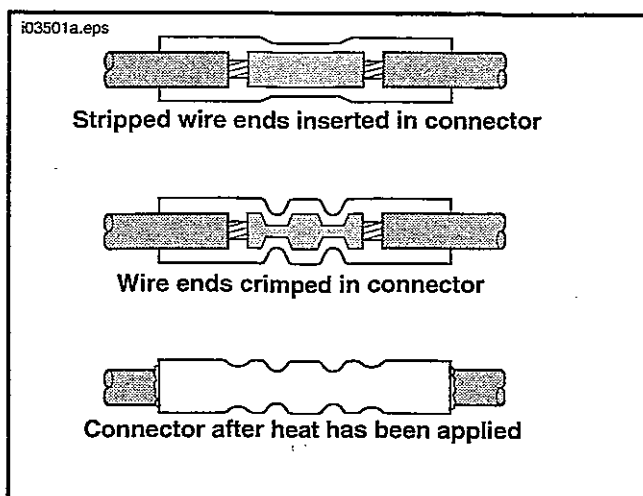

Figure 3. Installing the Sealed Butt Connectors
20. See Figure 3. Insert the two black turn-signal wires into opposite ends of a butt splice connector. Insert the two violet wires into opposite ends of a second butt splice connector.